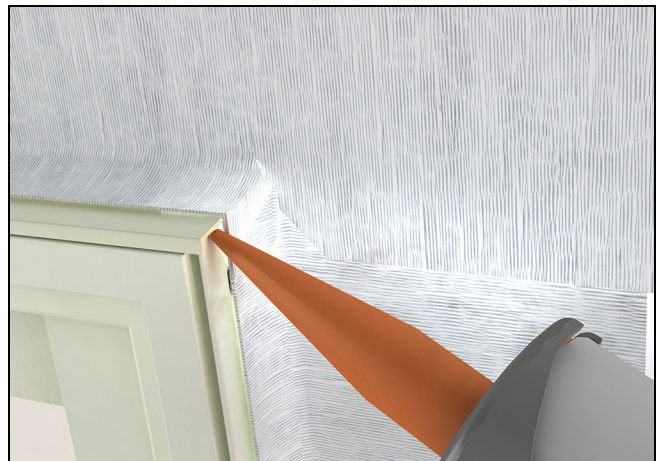

Figure 50
7. Seal the ends of the rigid head flash by injecting sealant at each end. See Figure 50.